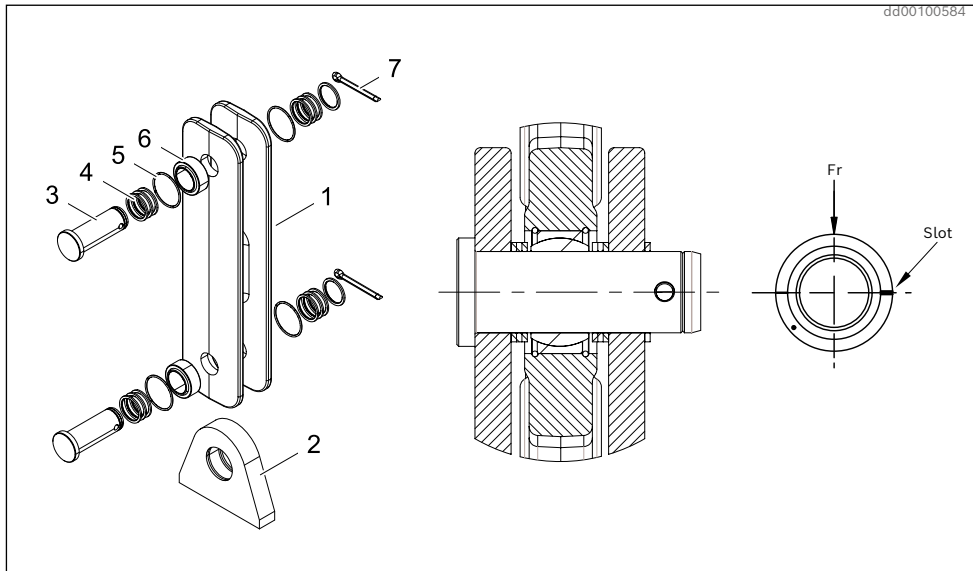

Fig. 13: Articulated connection
2. The articulated connection and the spherical plain bearing must be dismantled during welding. See Fig. 13
1. The bearing (6) shall be mounted by using a mounting sleeve or tube applied on the bearing outer ring.
2. The bearing shall be mounted with the slot in the outer ring perpendicular towards the load direction. See *Fig. 13*
3. Lock the bearings with the circlips (5)
4. Assemble the rest of the components according to *Fig. 13*